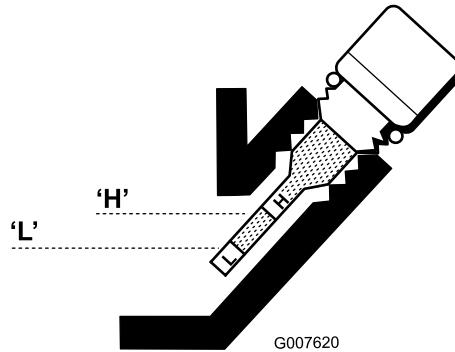

Figure 23
3. Wipe oil level gauge clean and insert it into filler port. Do not screw into port. Then remove and check level of oil. If level is low, add only enough oil to raise level until it is between the H and L marks on the gauge (Figure 23). Recheck level of oil. Do not overfill.